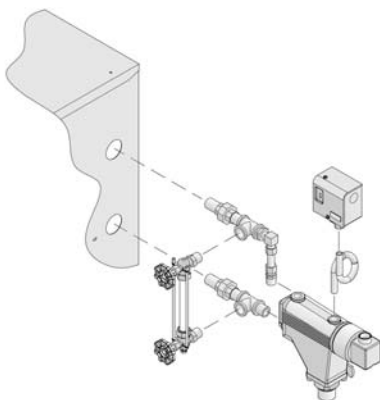

Figure 8: Float-Type Low Water Cut-Off and Pressure Limit Installation
5. Install float-type LWCO, if so equipped. See Figure 8.
- a. Float LWCO only: Remove 1/4" NPT plug from top of Low Water Cut-Off. Install Syphon and Limit into this tapping. See Figure 8.